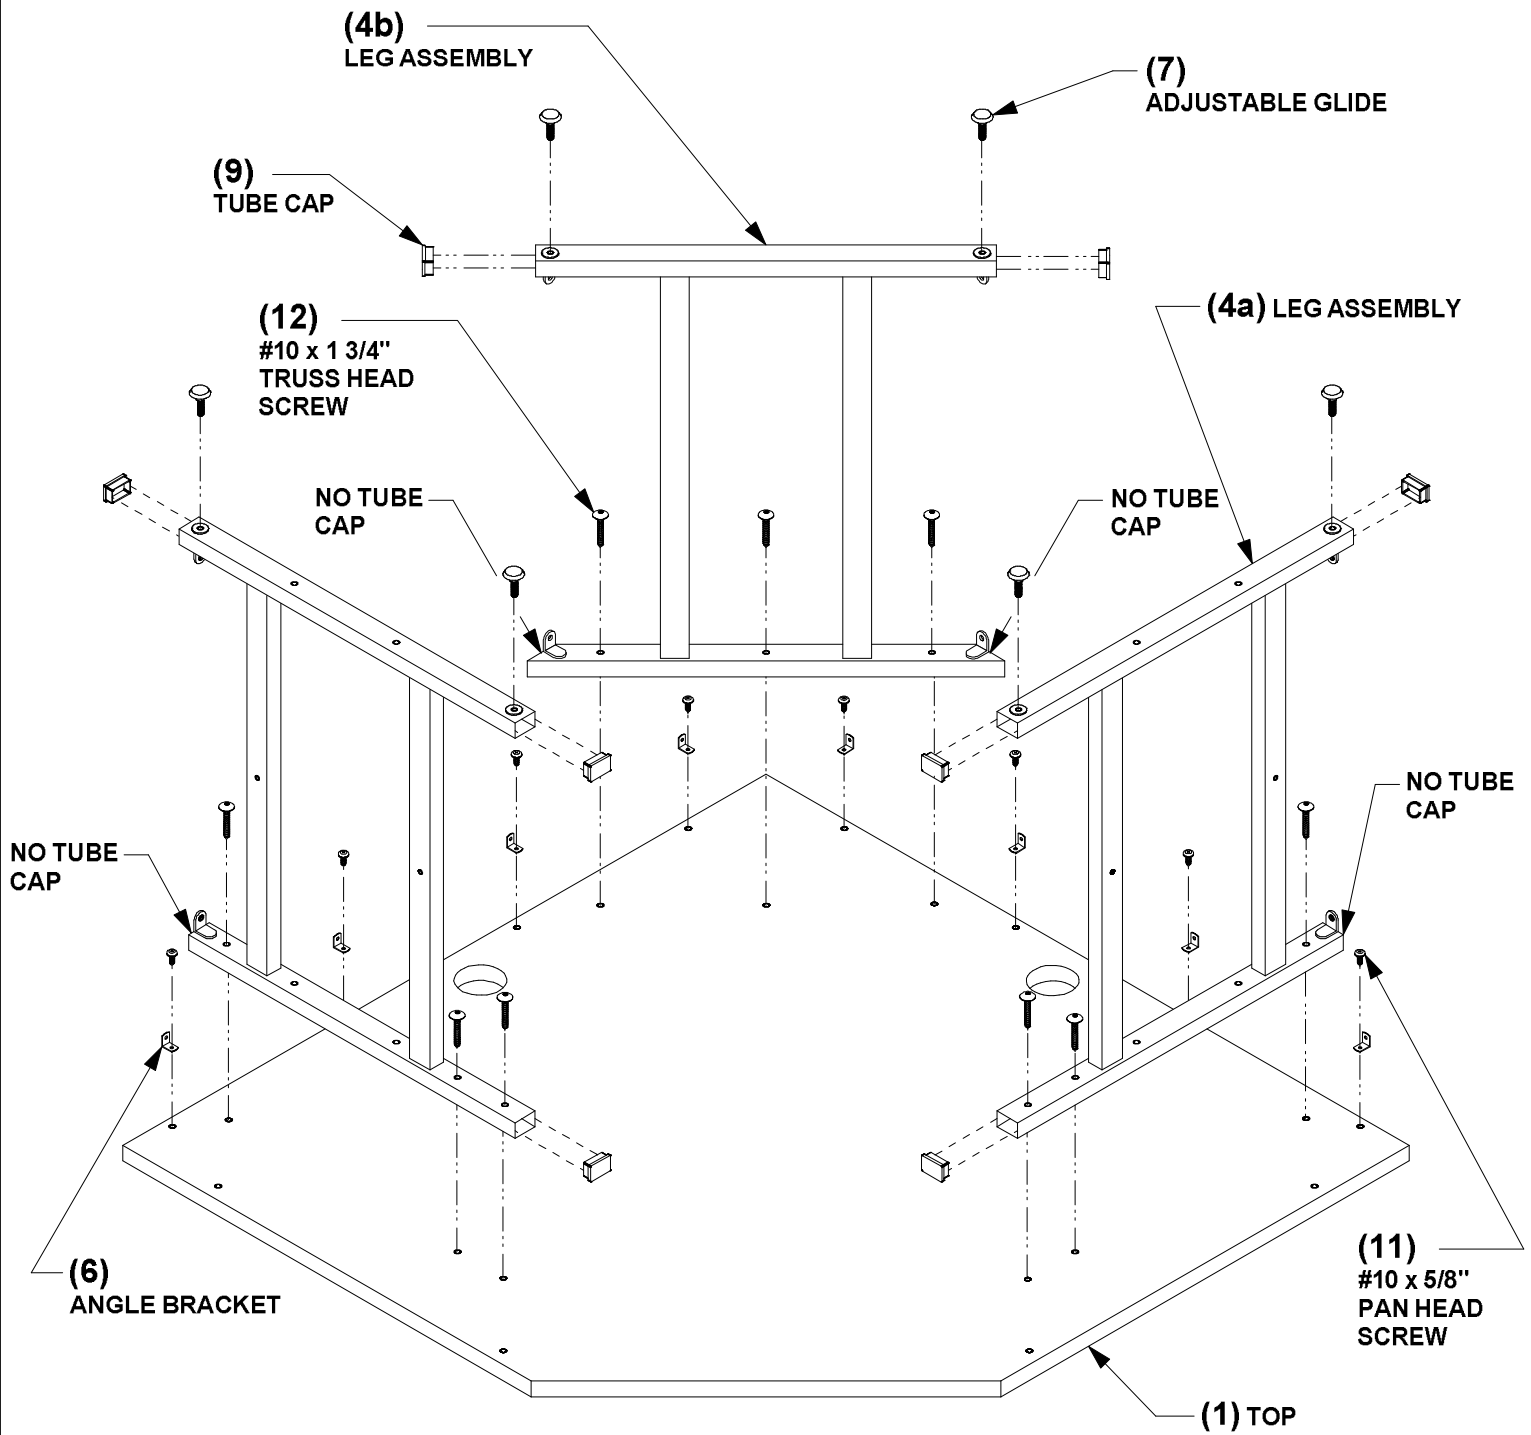

FIGURE 1
1. Insert tube caps (9) into leg assemblies (4a, 4b) (Note: 3 tube caps per leg assembly 4a, 2 tube caps per leg assembly 4b). Thread adjustable glides (7) into leg assemblies (4a, 4b). See figure 1.
2. Place top (1) on a cushioned surface with face side down. Attach angle brackets (6) to rear edges of top (1) using #10 x 5/8" pan head screws (11). Attach leg assemblies (4a, 4b) to top (1) using #10 x 1 3/4" truss head screws (12). See figure 1.